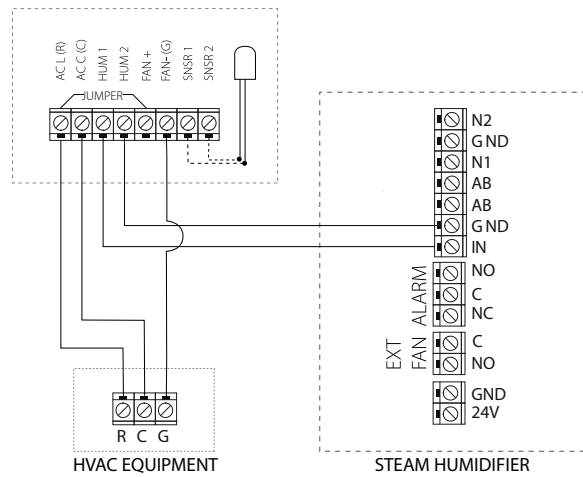

Fig. 3.t
4. Connect the GFX4 and steam humidifier to the HVAC equipment as shown in Fig. 3.s. to activate the HVAC blower.